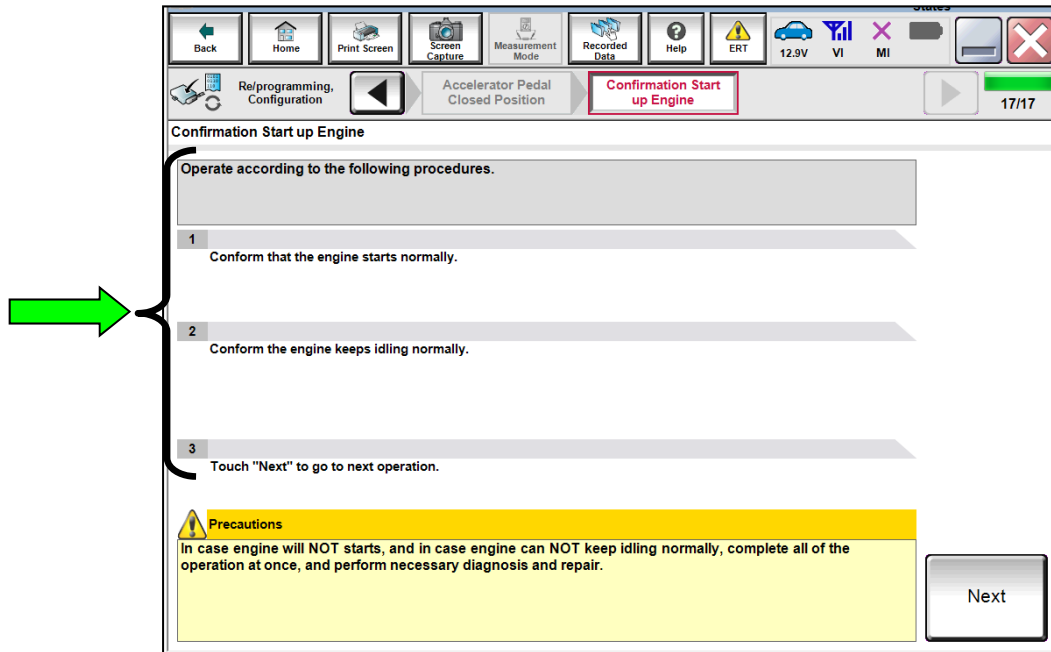

Figure 28
- Perform steps 1 and 2, and then select **Next** (Figure 28).